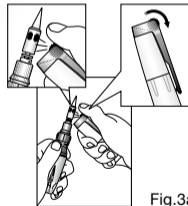
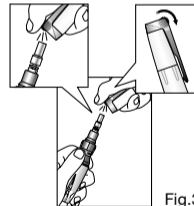

Fig.3a
Fig.3b
2. Ignite the gas stream with the **Flint Ignitor** located on the Torch Cap. (Fig. 3a Fig. 3b) (You can also use a regular lighter.) The tip will flame for a few seconds and then the catalyst will change to an orange glow.